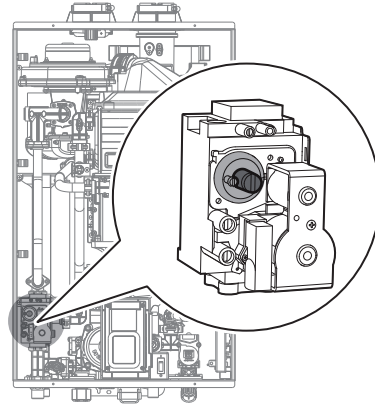

Figure 10
- c. Fully open a hot water fixture and set the water heater to operate at 1-stage MIN mode (refer to page 43). Measure the offset value at low fire and compare it to the values in Table 3. If the offset value is out of range, the gas valve set screw will need to be adjusted. If adjustment is necessary, locate the set screw as shown in Figure 10. Using a 5/32" or 4mm Allen wrench, turn the set screw no more than 1/4 turn clockwise to raise or counterclockwise to lower the offset value.